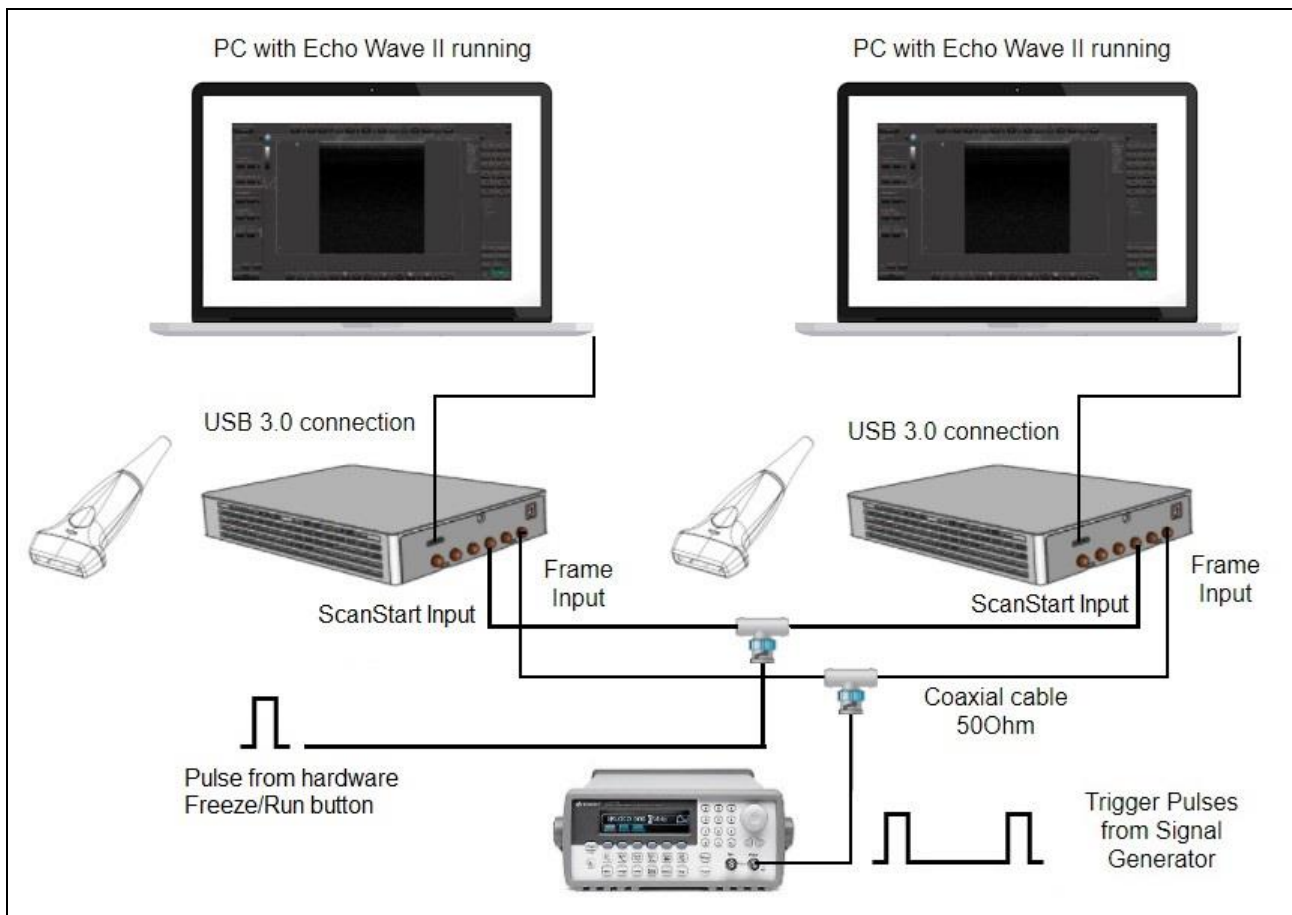

Figure 1 Twin ArtUs with 2 PCs
2. Connect Signal Generator to both ArtUs devices as shown on **Figure 1 Twin ArtUs with 2 PCs** using 50 Ohm coaxial cables and appropriate connectors. ArtUs has SMA50 connectors for coaxial cable attachment
3. Connect hardware Freeze/Run button to ScanStart Inputs of both ArtUs devices as shown on **Figure 1**